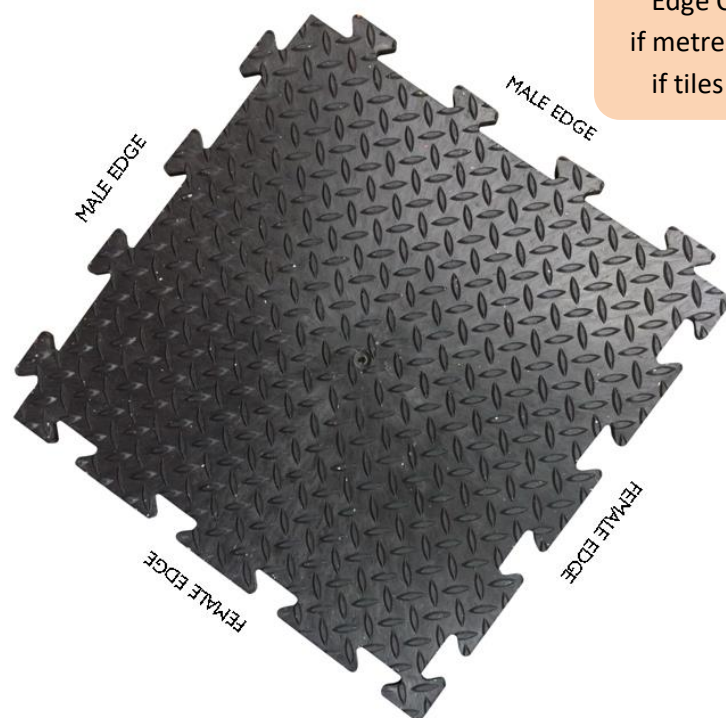
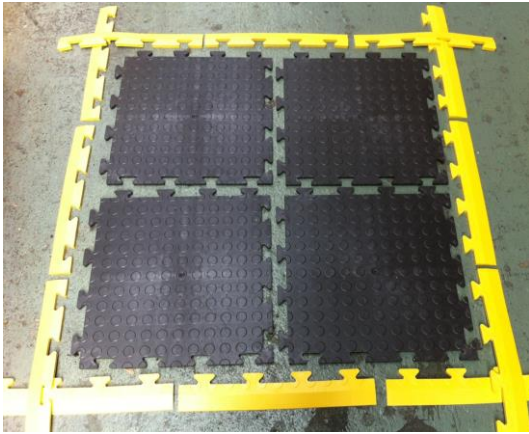

Fig.4
Fig.6
1. Select and align the male or female ramped edge pieces to the male or female tile edges. You will need to offset the edges using the brick style method mentioned earlier or as shown in (fig.6).
How to identify? (fig. 4)
2. Offset the edges using the brick style method mentioned earlier or see (fig.6). The edges are also used to make internal and external corners. Simply cut along the moulded in guideline (fig. 4) on the underside of each edge.